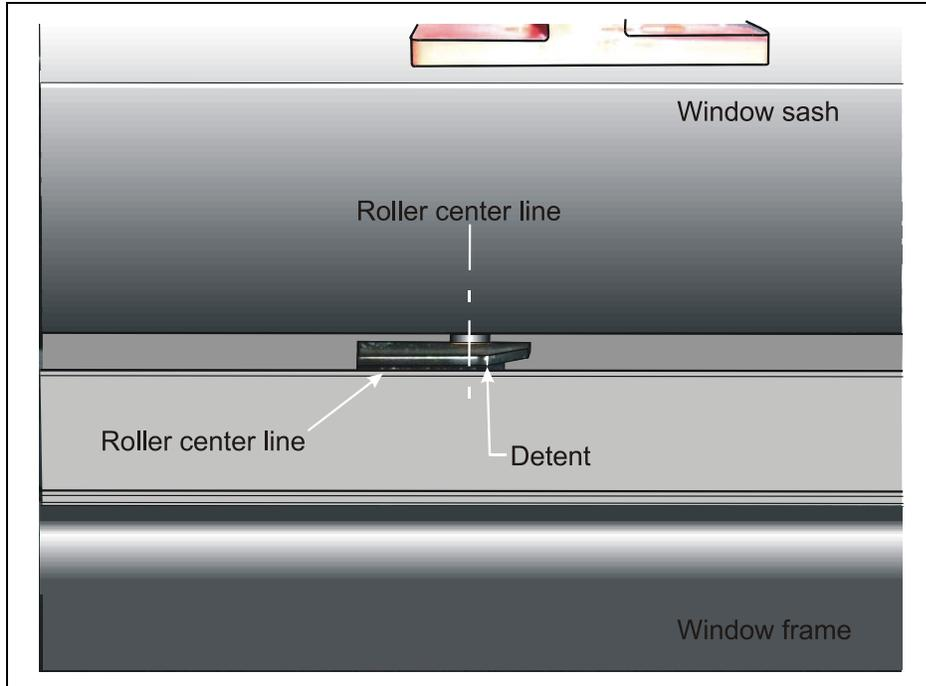

FIGURE 4
9. From inside the vehicle, with the window sash open, slide the horizontal latch handle all the way to the left and check how much engagement of the releasing bar roller is possible (figure 4). The center line of the releasing bar roller should be beyond the detent of the keeper. Check both keepers. If the position of the keeper does not respect this parameter, decrease the clearance at step 7 and then check once again as per step 9.